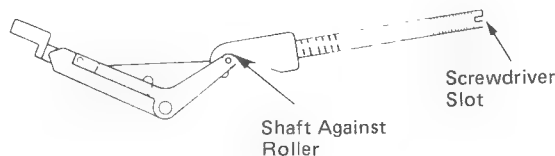
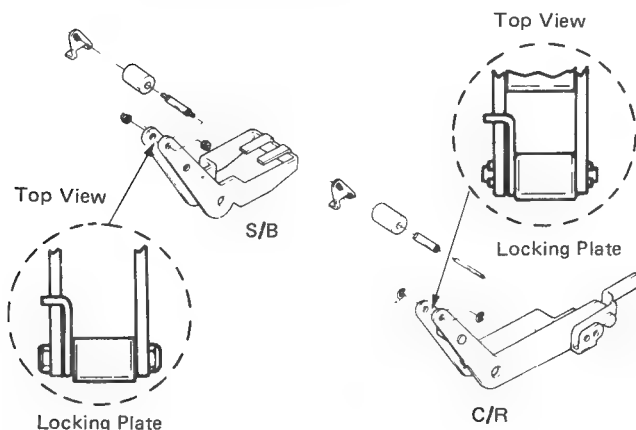
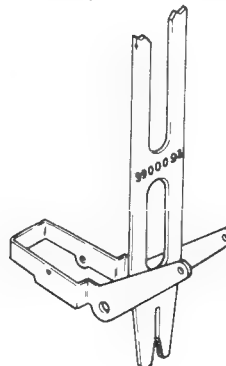

Figure 3
Figure 7
Figure 8
Install replaceable roller as shown (Figure 7).
Align flats on sleeve with hole in locking plate and press against roller. While holding roller with scissor clamps, lower complete assembly between follower arms. LH arm should be in slot of locking plate. Install one "C" clip on pivot shaft and install pivot shaft through complete assembly. Install remaining "C" clip (Figure 7).
**NOTE:** Roller may also be installed using disassembled tool as shown in Figure 3.
(Spacebar) The suggested procedure is as follows: Install typebar aligning tool between cam follower arms (Figure 8). Apply grease to locking plate and install over LH follower arm and align holes. Install pivot shaft through roller. While holding roller in place between follower arms with scissor clamps or tool as shown in Figure 3, align flats on end of shaft with slot in locking plate and remove aligning tool. Install nuts on shaft (Figure 7).